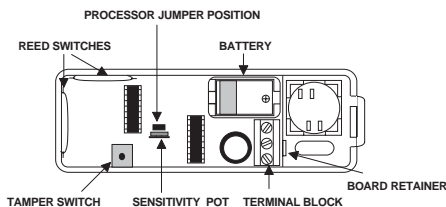

Figure 11. Shock Sensor with Cover Removed
- Remove the sensor cover to disengage the top of the cover from the slot in the sensor base as shown in Figure 11.